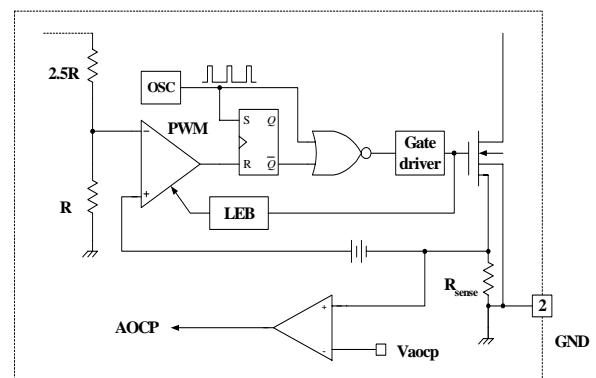

Figure 8. AOCP block
3.2 Abnormal Over Current Protection (AOCP) : Even though the FPSTM has OLP (Over Load Protection) and current mode PWM feedback, these are not enough to protect the FPSTM when a secondary side diode short or a transformer pin short occurs. The FPSTM has an internal AOCP (Abnormal Over Current Protection) circuit as shown in figure 8. When the gate turn-on signal is applied to the power Sense FET, the AOCP block is enabled and monitors the current through the sensing resistor. The voltage across the resistor is then compared with a preset AOCP level. If the sensing resistor voltage is greater than the AOCP level for longer than 300ns, the reset signal is applied to the latch, resulting in the shutdown of SMPS.